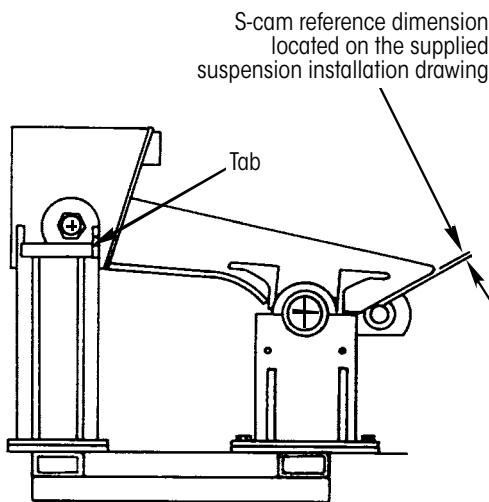

Figure 33: *Altering "T" series fixture*
2. **Cut** off upright "tab" portion of the hanger stands as shown (Figure 33).